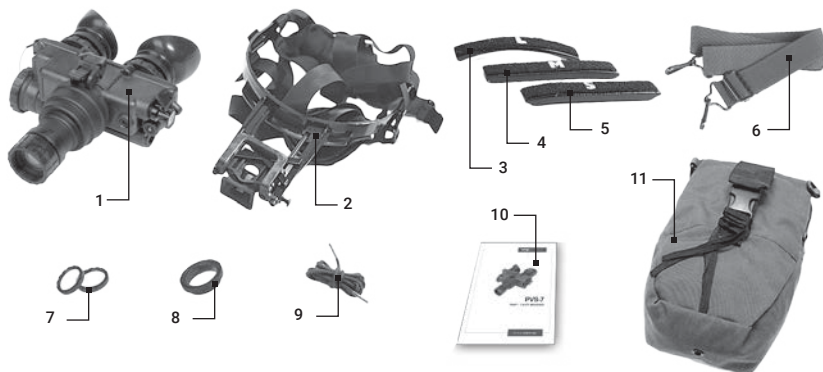

FIGURE 1-2. PVS-7 STANDARD COMPONENTS
The PVS-7 standard components shown in Figure 1-2 and listed in Table 1-1.
The ITEM NO. column indicates the number used to identify items in Figure 1-2.
1. Open the carrying case (Figure 1-2), remove the PVS-7, and inventory all items.